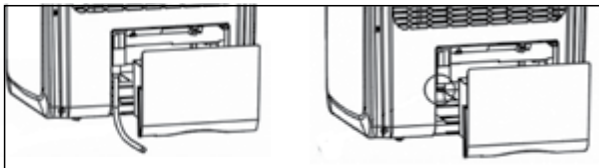

Fig. 9.
1. When the unit is in cooling mode, it is not necessary to install the condensate drainage pipe since condensate evaporates automatically. Make sure that when the unit is operating, the rubber plug (1) of the drainage hose is securely fixed (see Fig. 9).
2. In heating mode, remove the rubber plug (1) of the drainage hose (Fig. 9), install the respective drainage hose to improve heating efficiency.
3. In dehumidification mode, remove the rubber plug (1) of the drainage hose, install the respective drainage hose.